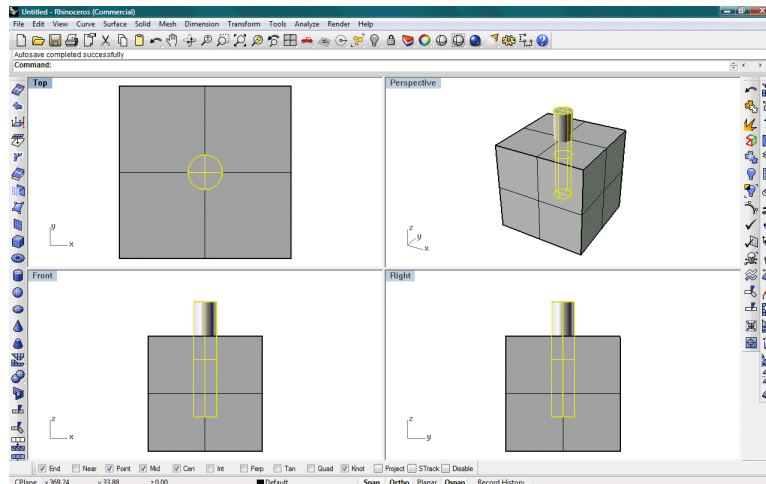

Figure 39: Cylinder (highlighted) partially inside the box.
3. To move the cylinder down by 40 feet, select the cylinder and select the menu item **Transform|Move**. Enter **0,0,0** followed by **<ENTER>**. Enter **0,0,-40** followed by **<ENTER>** (Figure 39).